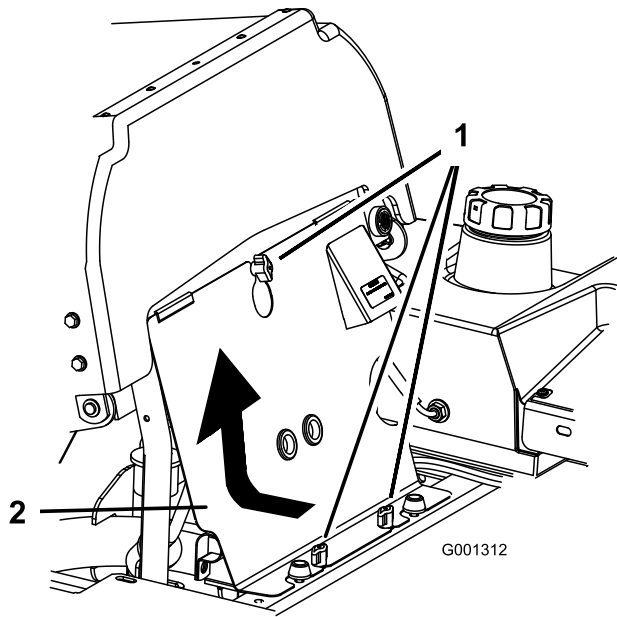

Figure 68
3. Loosen the front engine panel knobs and remove the panel (Figure 68).